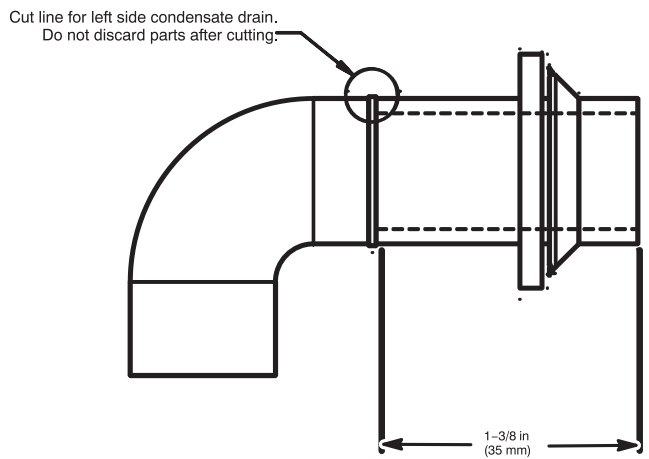

Fig. 13 - Modify Rubber Drain Elbow
3. The Z-pipe is connected to the condensate trap and the outside of the furnace by modifying the formed rubber drain elbow as shown in Fig. 13.
4. Remove the formed grommet from the rubber drain elbow by cutting the elbow along the vertical line located about 1-3/8 in. (35 mm) away from the formed grommet. See Fig. 13. **DO NOT DISCARD THE FORMED GROMMET OR THE RUBBER ELBOW.** Both of these pieces will be used.
TIP FROM CONTRACTORS: When installing the furnace horizontally, use the entire drain elbow (that is, do NOT cut as shown in Fig. 13 to connect the trap to the drain line. This helps to prevent bumps and shocks to the drain line from damaging the furnace drain trap. Avoid misalignment of the drain pipe which may cause kinks in the elbow.